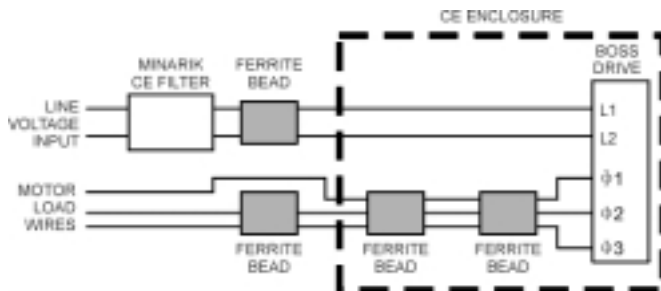
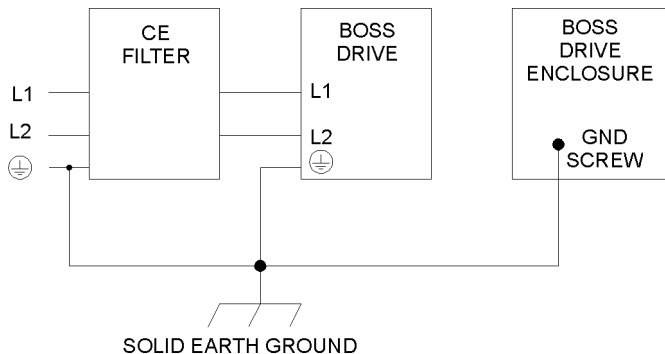

Figure 27. BOSS Connections for CE Compliance
Figure 28. BOSS Shielding Connections for CE Compliance
- a) Install two ferrite beads on the wire combination of T1+T2+T3. Place the beads between the T1, T2 and T3 terminals on the BOSS motherboard and the terminal board on the shielded enclosure as shown in Figure 27 (page 76).
- b) Install one ferrite bead on leads T2 and T3. Place the bead between the shielded enclosure and the motor under load. Refer to Figure 27 (page 76).
2. Install a ferrite bead on the input power leads. Place the bead between the EMI filter and the terminal board on the shielded enclosure as shown in Figure 27 (page 76).
3. Install an EMI filter on the input power leads as shown in Figure 27 (page 76). Refer to Minarik document 250-0315, CE Filter Installation Guide, for detailed installation and connection information.
The BOSS motor control module must be enclosed in a solid metal enclosure (Figure 27). The enclosure lid, body and backplane must all be tied to a low-impedance earth ground (Figure 28). Proper wire routing inside the enclosure is critical; power and logic leads must be routed in different avenues inside the enclosure.